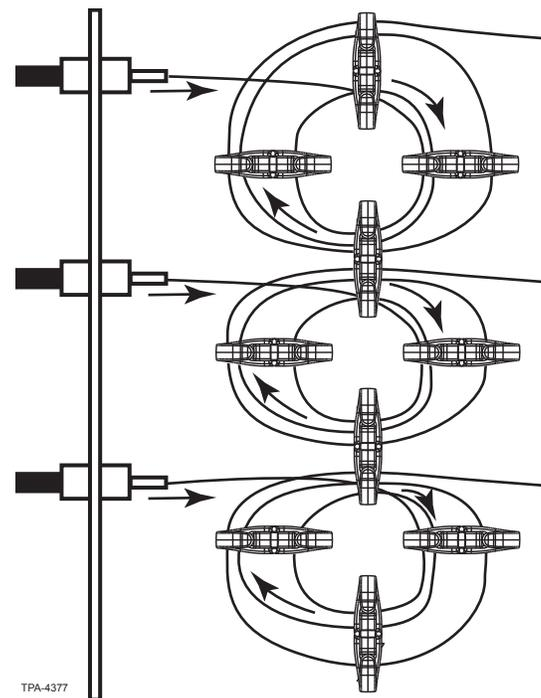

Figure 22
Route the half of the 900 micron fiber slack through the inner section of the segregated routing clips (Figure 22), then transitioning the second half of the length to the outer section of the clip. Make sure there is adequate slack so the fiber bend radius is maintained around the routing clips.
- Step 5:** Route the splitter output fiber slack as necessary through the segregated routing clips as illustrated in Figure 22.